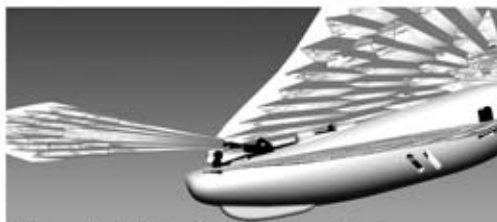

Figure 9 : Tail in fast flight position
* For outdoor flights, in a big space or for fast flights: adjust the tail in a low position (using the notch 1 or 2). (See figure 9) Knowing that : Notch 2 is recommended for beginners. Notch 1 is for best performance but requires a bit of practice, and wings adjustment (see below).